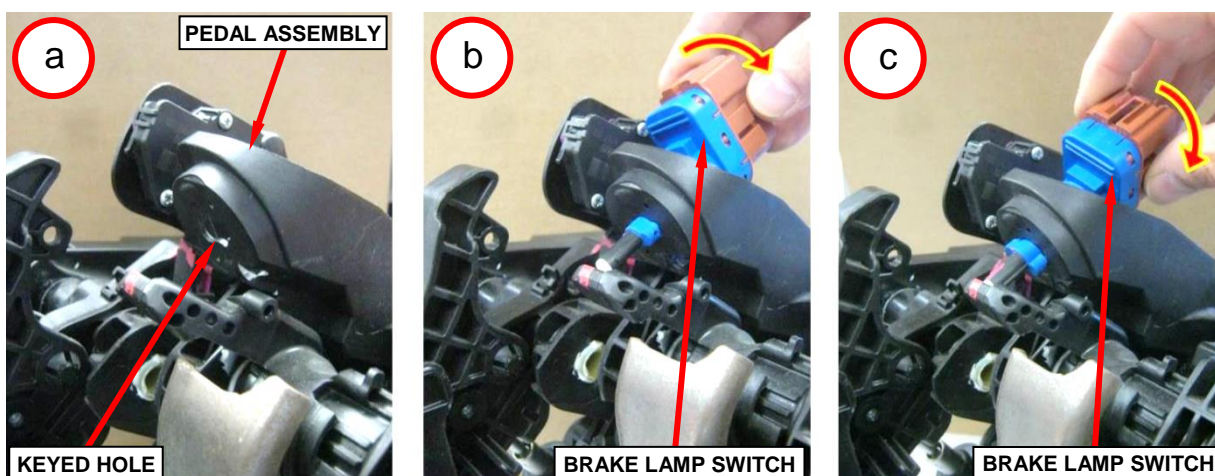

Figure 19 – Brake Lamp Switch Installation
- a. Align the tabs on the brake lamp switch locking collar with the keyed hole in the clutch/brake pedal assembly (Figure 19).
- b. Holding the brake lamp switch perpendicular to the pedal assembly, insert the tabs on the brake lamp switch locking collar through the keyed hole in the pedal assembly until the switch housing is firmly seated against the pedal assembly (Figure 19).
- c. Rotate the switch housing about 45 degrees to engage the tabs on the locking collar with the pedal assembly (Figure 19).